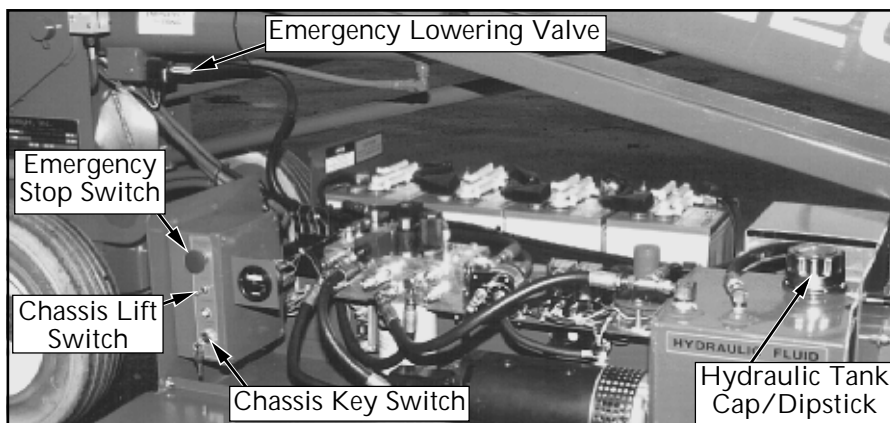

Figure 1: Chassis Control Module
9. Pull out on chassis and platform emergency stop switches to turn ON (Figure 1 or 2).
10. Turn the Chassis Key Switch (Figure 1) to **CHASSIS**.
11. Push chassis lift switch (Figure 1) to **LIFT** position and fully elevate platform.
14. Pull out on the chassis emergency lowering valve (Figure 1) to check for proper operation. Once the platform is fully lowered, close the valve by releasing the knob.
15. Turn the chassis key switch (Figure 1) to **DECK**.
The emergency lowering valve knob is located at the base of the lift cylinder (Figure 1).